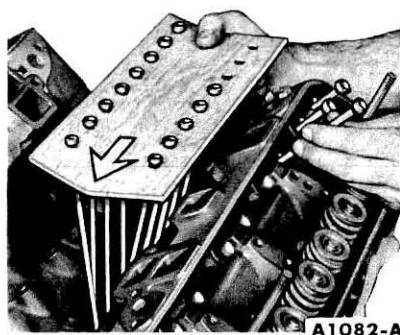

FIG. 13—Valve Push Rod Removal
3. Remove and identify the push rods so they can be replaced in their original positions (Fig. 13).